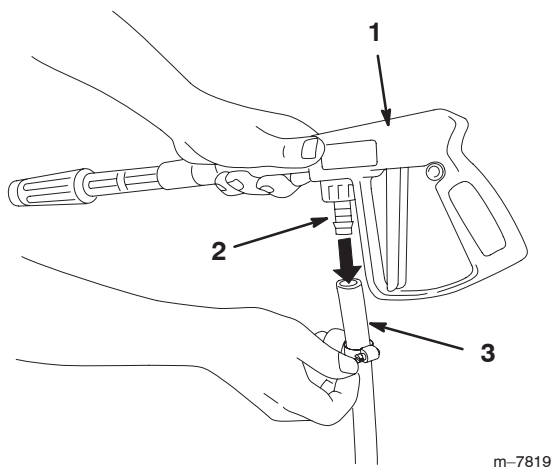

Figure 11
21. Connect the free end of the long hose to the fitting on the gun (Fig. 11).